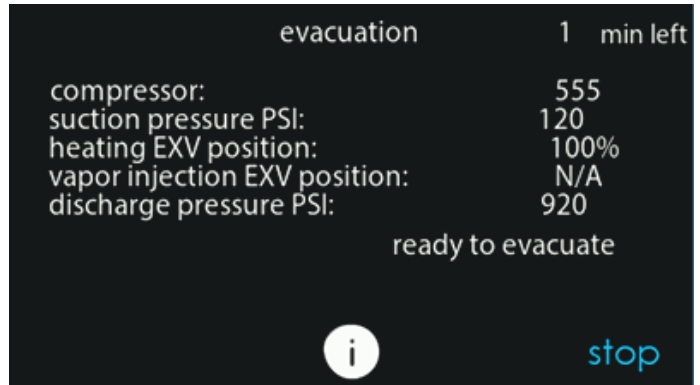

Fig. 27 – Evacuation Status Screen
5. Begin evacuation or refrigerant recovery as required for the procedure after Ion™ Black System Control indicates the EXV is open. Power may be removed from heat pump after the Ion™ Black System Control indicates “READY TO EVACUATE.” See Fig. 27.